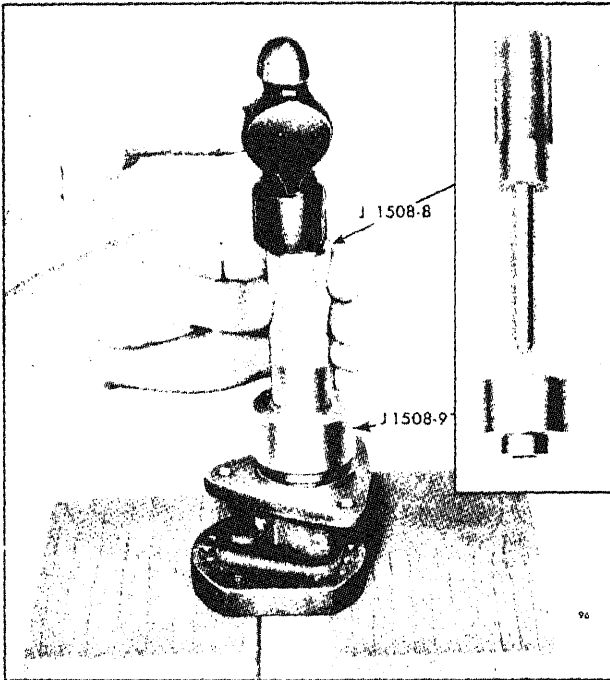

Fig. 7 - Installing Outer Oil Seal
- c. Place the shorter end of the adaptor J 1508-9 over the pilot and against the shoulder of the installer handle. Place the outer oil seal on the pilot of the installer handle with the lip of the seal facing the adaptor. Then, insert the pilot of the installer handle into the pump body and drive the seal in (Fig. 7) until the shoulder of the adaptor contacts the pump body. Thus the oil seals will be positioned so that the space between them will correspond with the drain holes located in the bottom of the pump body.